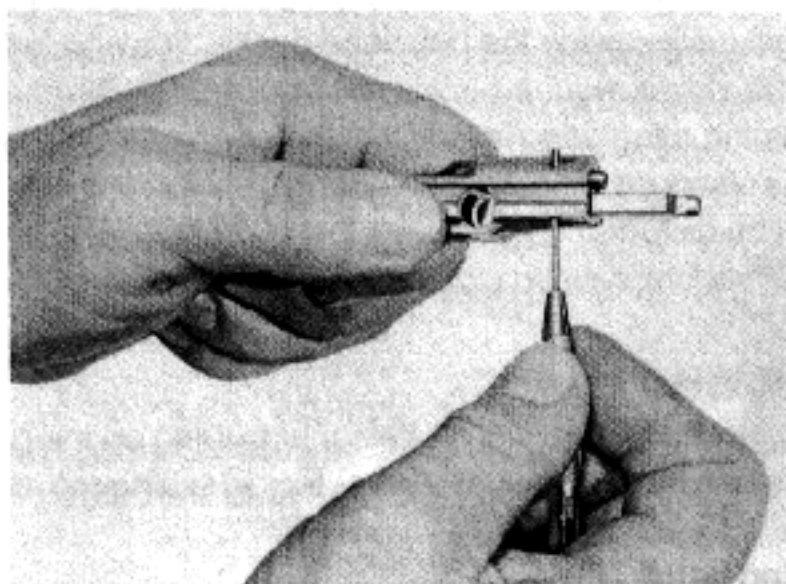

Fig. 14
| 9    | Backing-out punch Ø 1.8           | for clamping sleeve (13), Fig. 14                                                                                                                          |
- Press out the clamping sleeve (13) (Fig. 14).